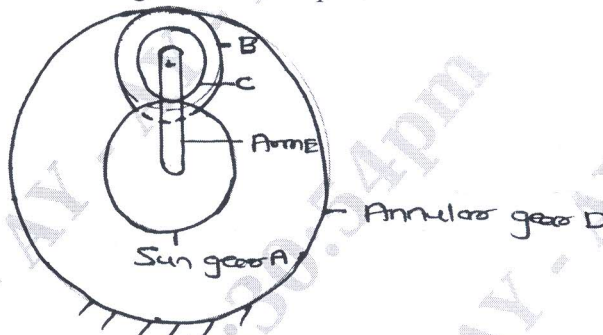

Fig Q6(a)
- 6 a. Fig Q6(a) shows an epicyclic gear train which consists of an annular gear D having internal teeth, a compound gear B-C, the sun gear A and the arm E. The compound gear B-C is known as a planet gear as it moves around sun gear A. The sun gear A and annular gear D are coaxial, one shaft is connected to sun gear A and another shaft is connected to the arm. These two shafts are also coaxial. The sun gear A meshes with compound gear C and annular gear D meshes with compound gear B. The gear A, B and C are having 60, 40 and 25 external teeth respectively. If all the gears have the same module, find the number of teeth on the fixed annular gear D. Also find the speed of the shaft connected to the arm, if the speed of the shaft connected to the sun gear A is 100rpm.